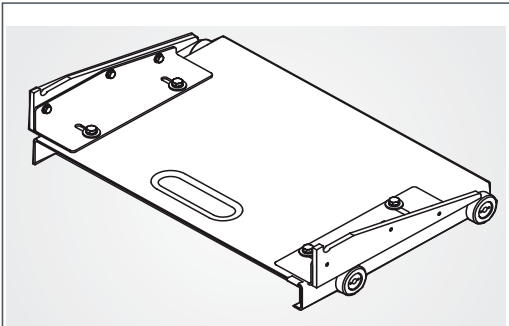

Fig. 11.1
- To get access to the fixed contacts behind the shutters, use a shutter lift (Fig. 11.1). Handling of the shutter lift corresponds to that of standard trucks (HVX, UTX).